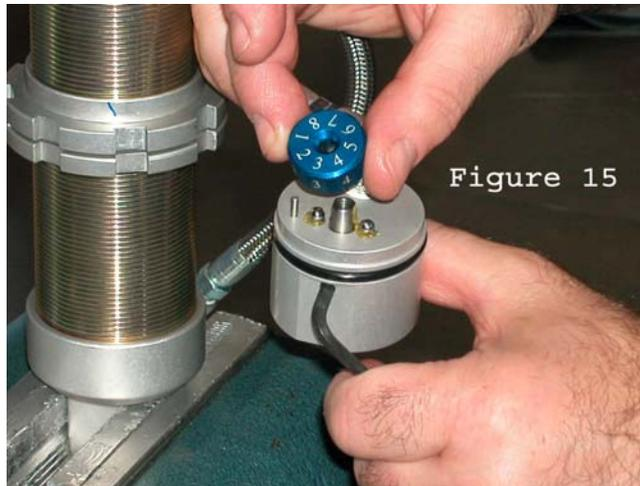

Figure 15
38. Fill the two holes that are on either side of the adjuster-drum stub with assembly grease. Insert one new spring into each hole. Place one new clicker ball in the center of each spring. Orient the #1 position of knob with the position indicator of the CD housing. **(Fig. 15)** Install the compression adjustment knob onto adjuster-drum stub. Apply even pressure on knob and press down completely. The clicker balls should recess down into the holes. If they don't, slowly remove the knob, and re-seat the clicker balls and try again. Once knob is in position, insert a 5/32 inch Hex Key into the bleed hole of the CD housing. Secure knob with flat head screw using a 3/32 inch Hex Key. Install dust shield o-ring by stretching it over the top of the compression adjuster knob.